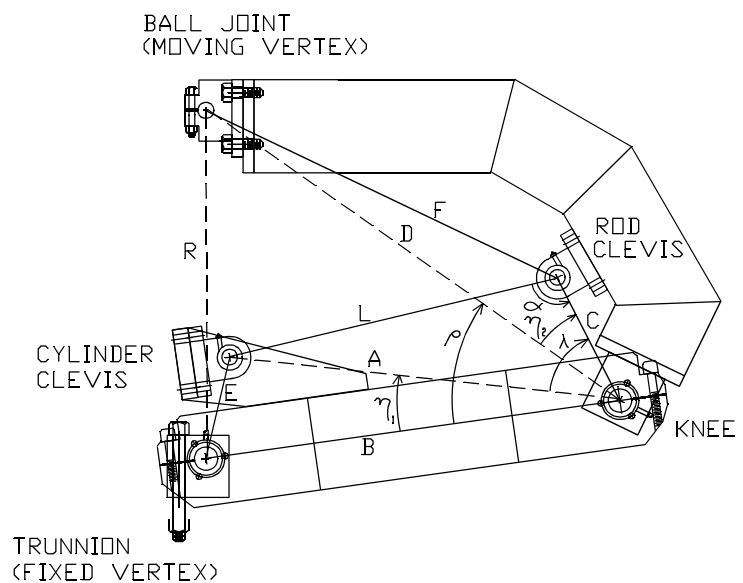
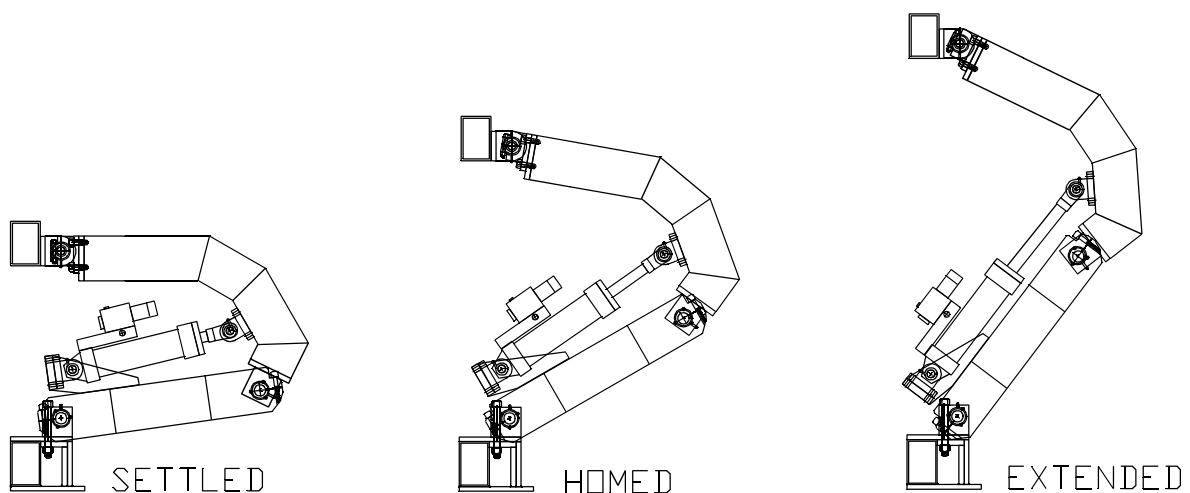

Figure 4-4. Leg geometry for a single leg.
Figure 4-5. Articulation of the SMP leg.
Once the leg extensions (R1, R2, R3) have been computed, the software finds the fold angles (Alpha1, Alpha2, Alpha3) for the three legs. Figure 4-4 shows the geometry of a single leg, illustrating the relationships among the fixed distances between components (A-F), the leg extension (R), and the pot angle (α). The position pot is located at the Rod Clevis where it pivots on the upper leg. Figure 4-5 shows how the leg articulates.